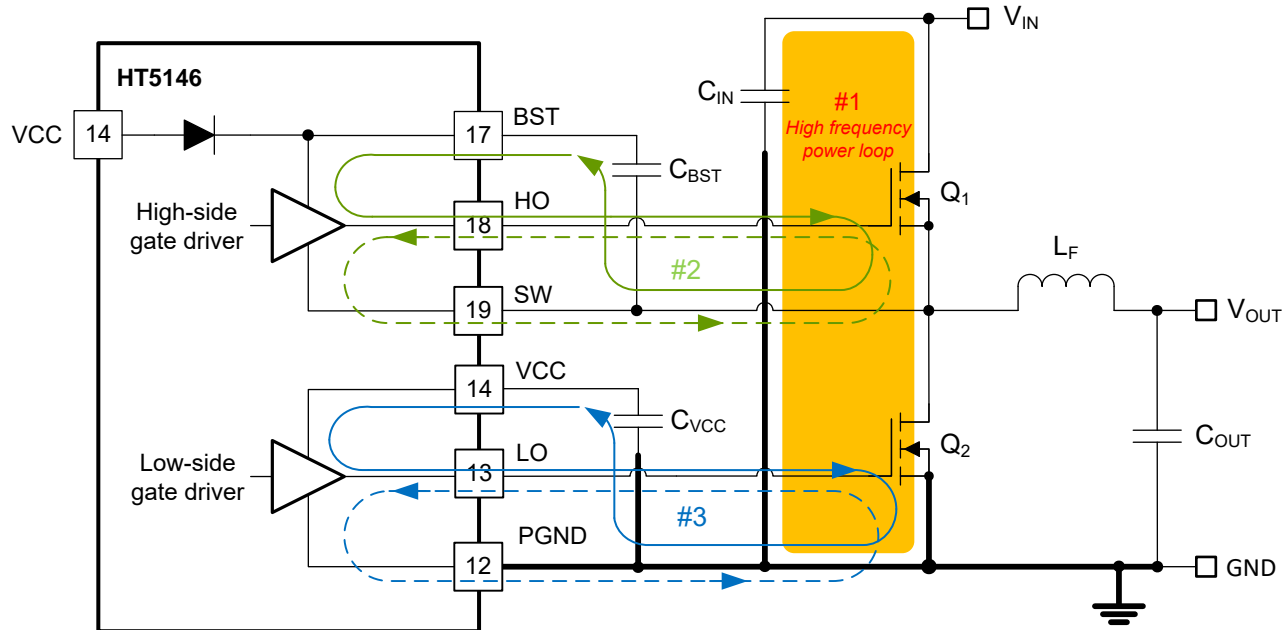

图 11-1. DC/DC Regulator Ground System With Power Stage and Gate Drive Circuit Switching Loops
Proper PCB design and layout is important in a high-current, fast-switching circuits (with high current and voltage slew rates) to assure appropriate device operation and design robustness. As expected, certain issues must be considered before designing a PCB layout using the HT5146. The high-frequency power loop of the buck converter power stage is denoted by #1 in the shaded area of 图 11-1. The topological architecture of a buck converter means that particularly high di/dt current flows in the components of loop 1, and it becomes mandatory to reduce the parasitic inductance of this loop by minimizing its effective loop area. Also important is the gate drive loops of the low-side and high-side MOSFETs, denoted by 2 and 3, respectively, in 图 11-1.
- Loop #1: The most important loop to minimize the area of is the path from the input capacitor or capacitors through the high- and low-side MOSFETs, and back to the capacitor or capacitors through the ground connection. Connect the input capacitor or capacitors negative terminal close to the source of the low-side MOSFET (at ground). Similarly, connect the input capacitor or capacitors positive terminal close to the drain of the high-side MOSFET (at VIN). Refer to loop #1 of 图 11-1.
5. The SW pin connects to the switch node of the power conversion stage and acts as the return path for the high-side gate driver. The parasitic inductance inherent to loop #1 in 图 11-1 and the output capacitance (C_{OSS}) of both power MOSFETs form a resonant circuit that induces high frequency (> 100 MHz) ringing on the SW node. The voltage peak of this ringing, if not controlled, can be significantly higher than the input voltage. Ensure that the peak ringing amplitude does not exceed the absolute maximum rating limit for the SW pin. In many cases, a series resistor and capacitor snubber network connected from the SW node to GND damps the ringing and decreases the peak amplitude. Provide provisions for snubber network components in the PCB layout. If testing reveals that the ringing amplitude at the SW pin is excessive, then include snubber components as needed.
- Loop 2: high-side MOSFET, Q_1 . During the high-side MOSFET turnon, high current flows from the bootstrap (boot) capacitor through the gate driver and high-side MOSFET, and back to the negative terminal of the boot capacitor through the SW connection. Conversely, to turn off the high-side MOSFET, high current flows from the gate of the high-side MOSFET through the gate driver and SW, and back to the source of the high-side MOSFET through the SW trace. Refer to loop #2 of 图 11-1.
- Loop 3: low-side MOSFET, Q_2 . During the low-side MOSFET turn-on, high current flows from the VCC decoupling capacitor through the gate driver and low-side MOSFET, and back to the negative terminal of the capacitor through ground. Conversely, to turn off the low-side MOSFET, high current flows from the gate of the low-side MOSFET through the gate driver and GND, and back to the source of the low-side MOSFET through ground. Refer to loop #3 of 图 11-1.